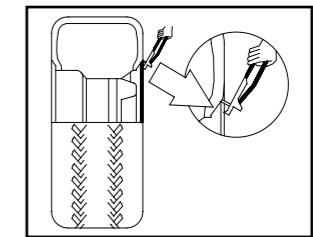

Fig.04
- Remove the counterweight on the wheel. (See Fig.04).